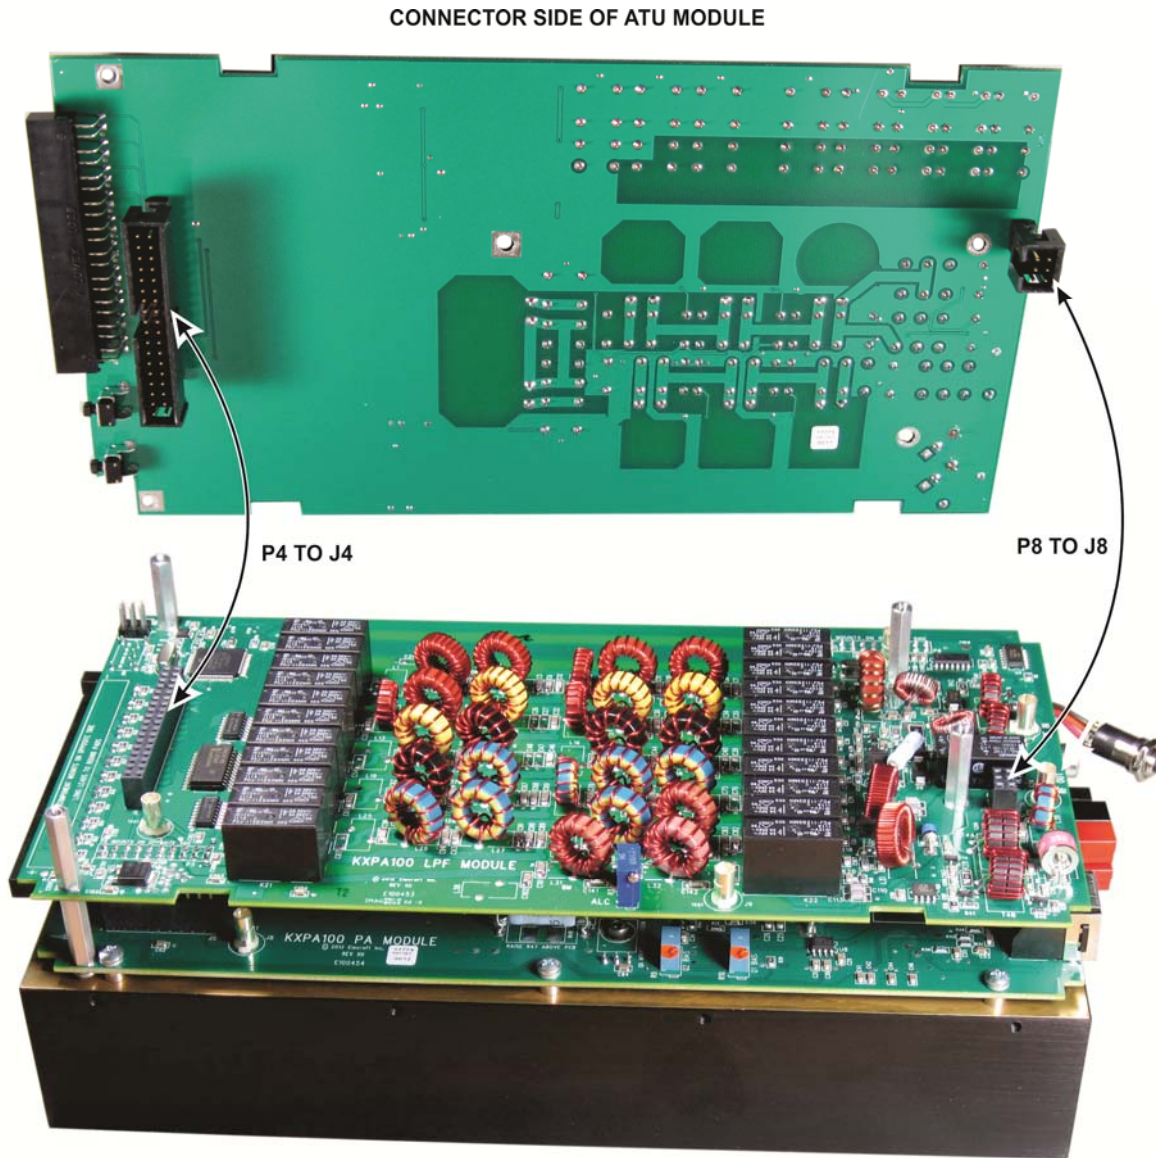

Figure 8. Mating the ATU Module with the LPF Module.
□ Taking ESD precautions, remove the KXAT100 ATU module pc board from its packaging. Place it on the standoffs you just installed so that the two plugs on the ATU module mate with their corresponding sockets on the LPF module as shown in Figure 8. Be sure that both connectors are properly aligned so all of their pins engage.